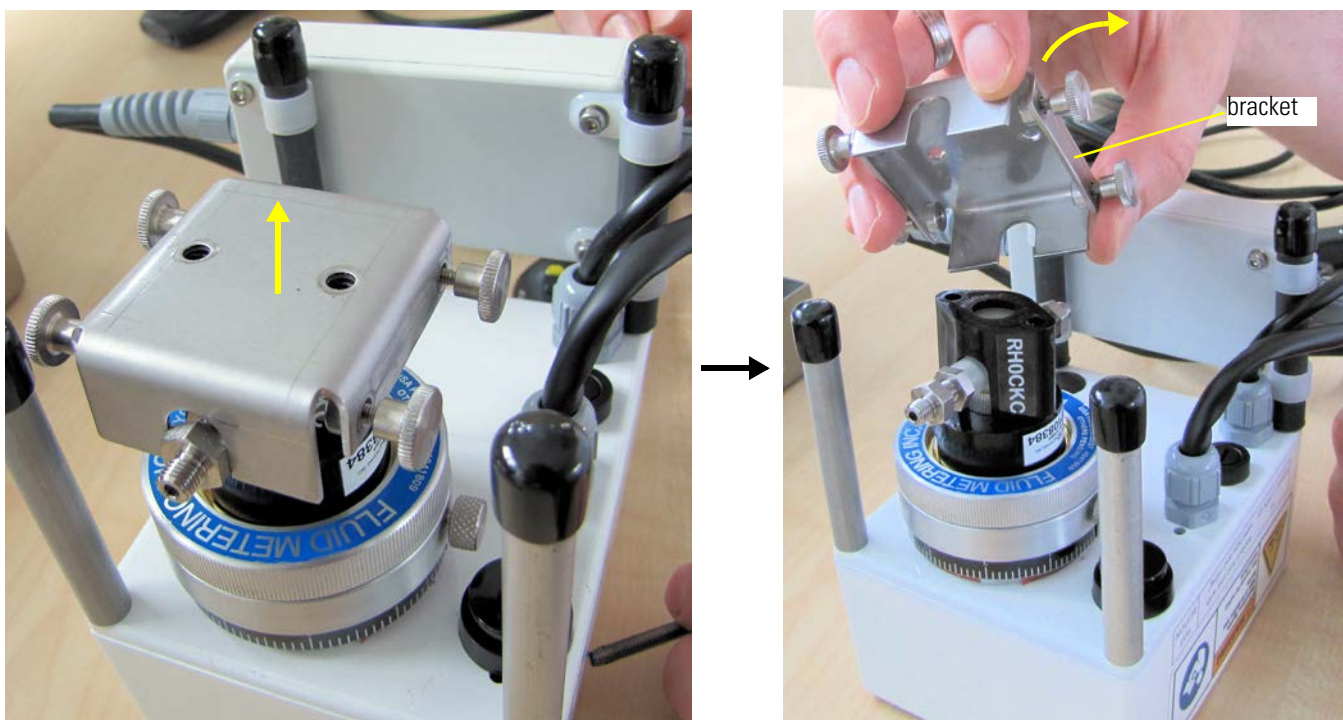

Figure 9-20. Taking bracket away together with knurled screws still attached to it
8. Carefully pull the bracket upwards. Take the bracket away together with the knurled screws still attached to it. See Figure 9-20.